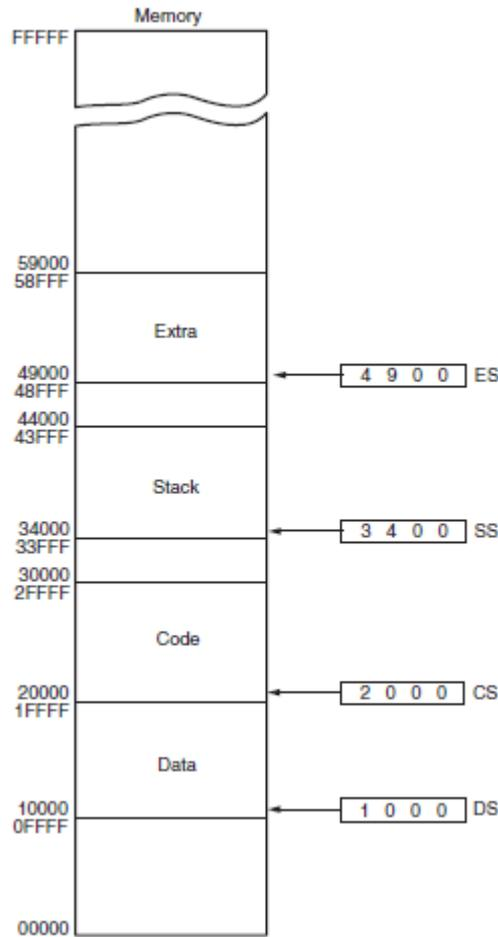

Figure2-4: A memory system showing the placement of four memory segments
- This scheme allows both programs and data to be relocated in the memory (Figure 2-4).